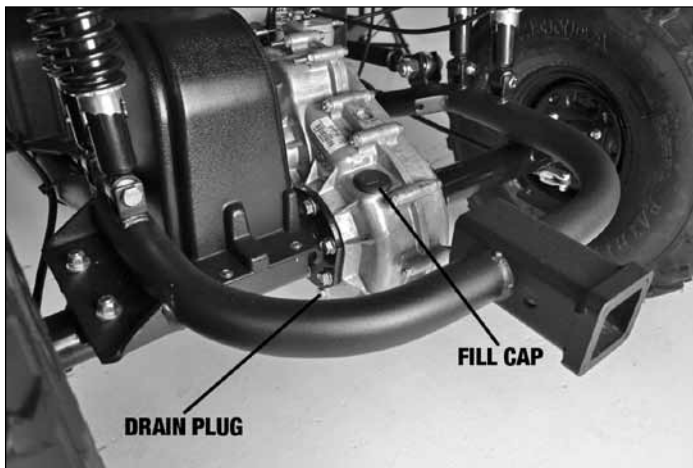

figure 4.6 (transaxle oil fill cap location)
Transaxle Oil Type, Fill, and Drain (Refer to figures 4.6 and 4.7)
- Fill cap location: At rear driver side (see figure 4.6)